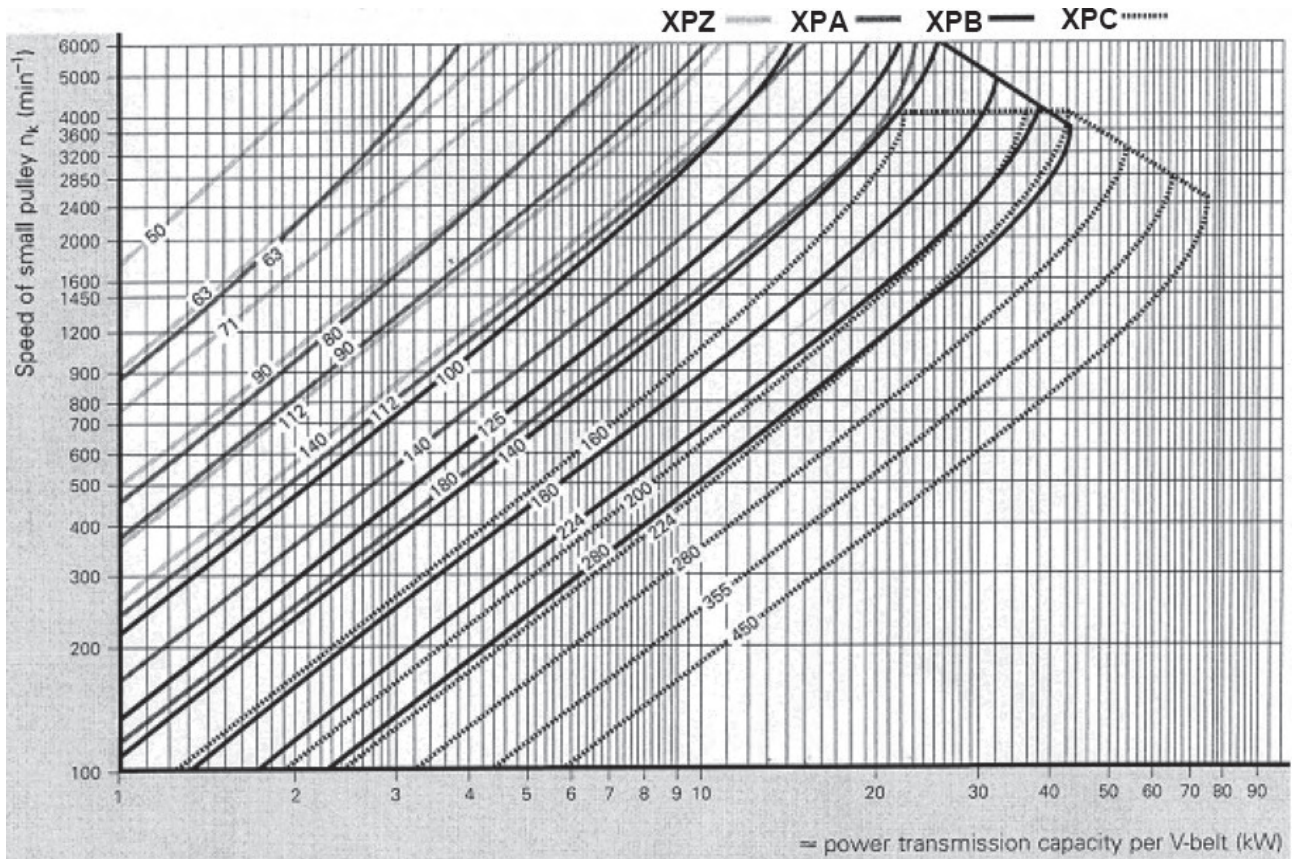
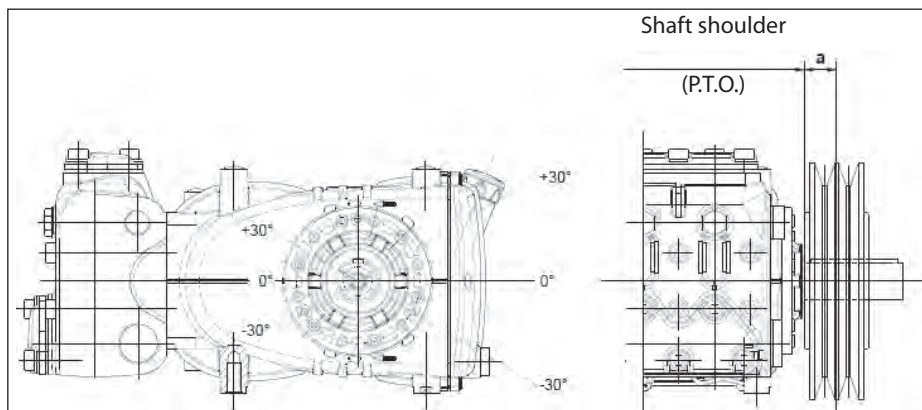

Fig. 7
Fig. 10
The pump can be controlled by a V-belt system. For this pump model, we recommend use of 2 XPB belts (16.5x13 serrated). Use an XPC profile only for long durations. Both the characteristics and transmissible power of each belt can be verified in the diagram in Fig. 7, in relation to the number of rpm normally declared by the manufacturer. Minimum duct pulley diameter (on pump shaft):  $\geq 160$  mm. The radial load on the shaft must not exceed 3000 N (value necessary for Layout definition). The transmission is considered adequate if the load is applied to a maximum distance  $a=30$  mm from the shaft shoulder (P.T.O) as shown in Fig. 10.
- b) Use high performance belts – for example **XPB** instead of **SPB** – as a lower quantity of belts for the same transmitted power may be necessary and a consequent shorter resulting distance compared to the shaft shoulder (P.T.O.) “a” of Fig. 10.
- e) Follow the direction of the belt pull as shown in Fig. 10 for other needs, contact our **Technical** or **Customer Service Departments**.